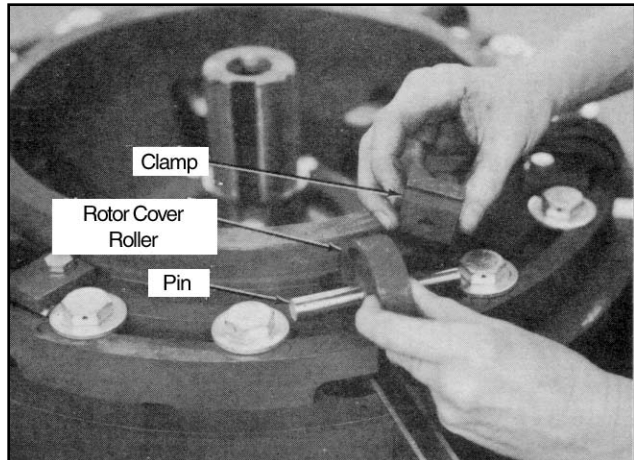

Figure 27
2. Remove rotor cover rollers, Figure 27.